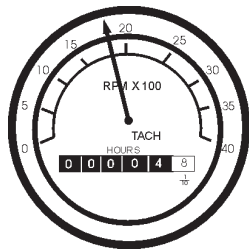

Figure 56. Engine Tachometer Gauge
16. The *tachometer gauge* (Figure 56) will indicate the speed of the engine when the generator is operating. Under normal operating conditions this speed is approximately 1800 RPM's.